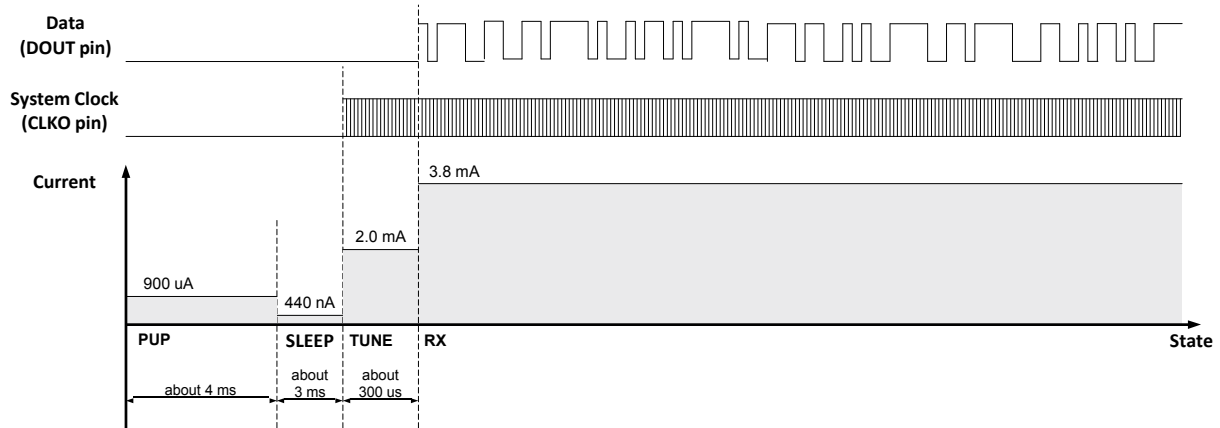

Figure 13. Timing and Current Consumption for Always Receive Mode
7. Package Outline**Figure 13** S1 Package Outline Drawi